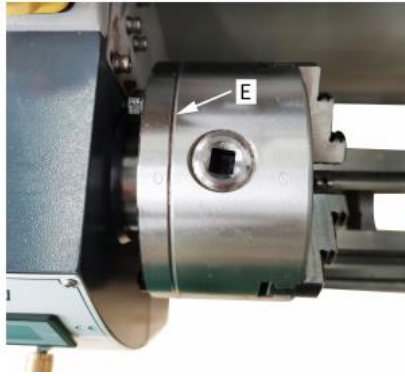

Fig. 26
Using this universal chuck round triangular square hexagonal octagonal and twelve,cornered stock may be clamped. (Fig.26)
For the original 3 jaw chuck that mounted on the lathe the factory has mounted the chuck in the best way to guarantee the holding accuracy with two "." mark (A) Fig.26 showed on the chuck and chuck flange.